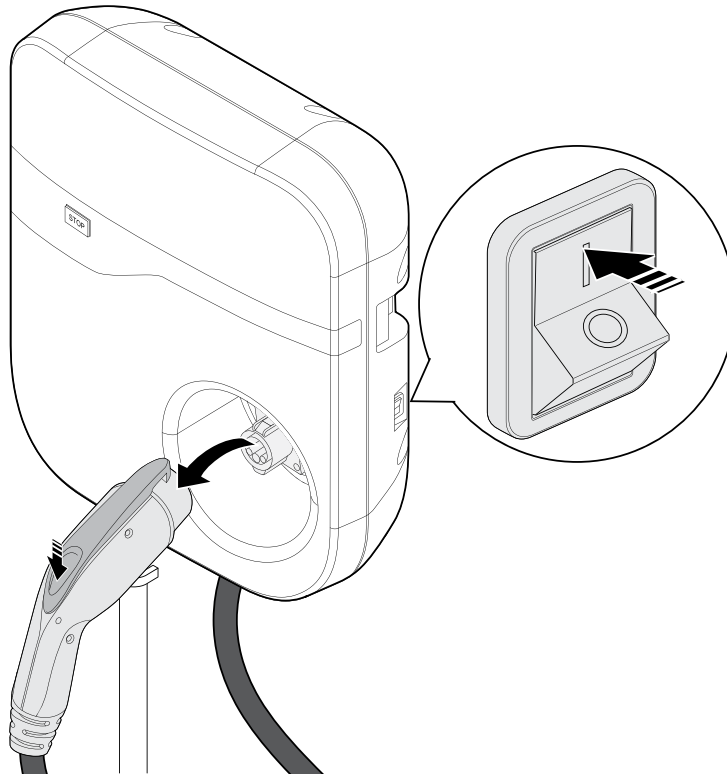

Figure 6-1. Powering on the Bosch Level 2 Charging Station and removing the charging plug
1. See Figure 6-1. Turn the Bosch Level 2 Charging Station power switch to ON. Wait 3 seconds for the green indicator light.